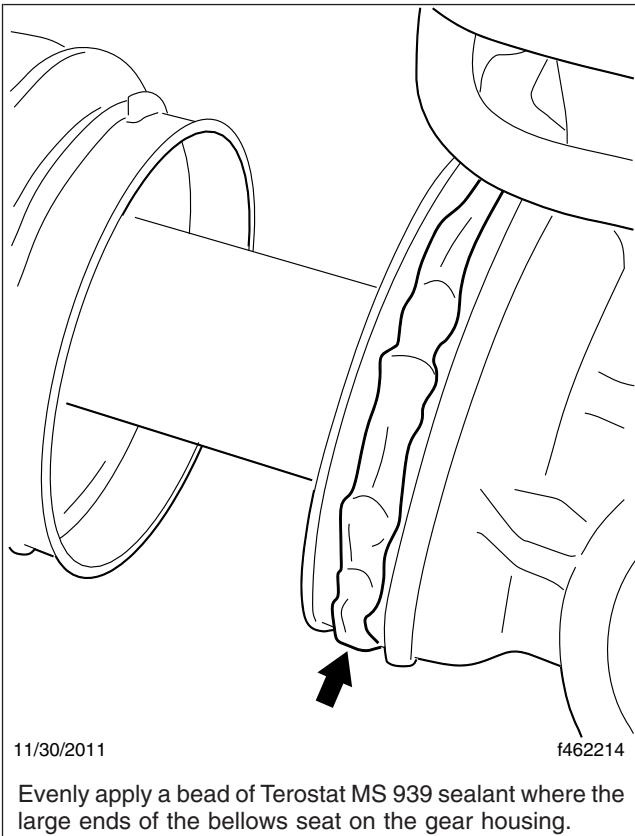

Fig. 6, Terostat MS 939 Sealant Application
11. Evenly apply Terostat MS 939 sealant to the outer diameter of the rack housing where the large ends of the bellows seat on the gear housing. See Fig. 6.